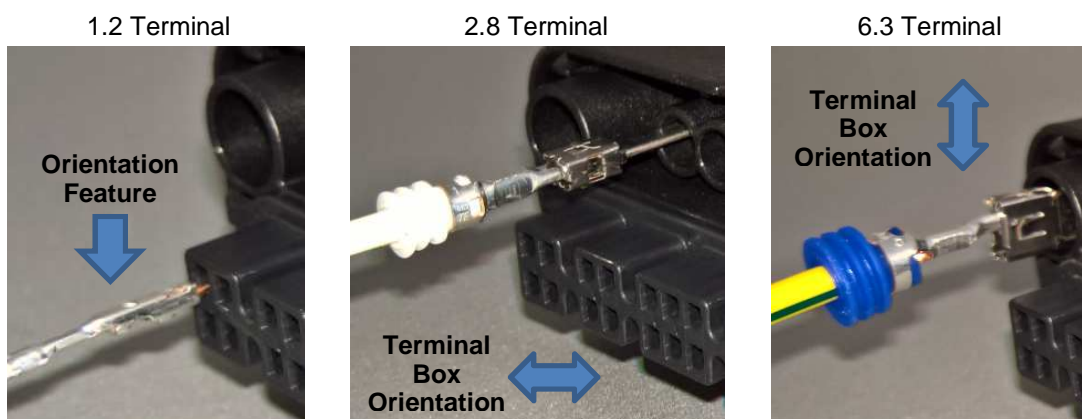

Figure 3
3. Align a crimped terminal with the appropriate circuit cavity of the connector so that the terminal is orientated as shown in Figure 3. The male connector is shown, but terminal orientation is the same for both male and female connectors. 1.2 circuits should have the orientation feature facing down, 2.8 terminals are oriented with the long side of the terminal box horizontal, and 6.3 terminals are oriented with the long side of the terminal box vertical.